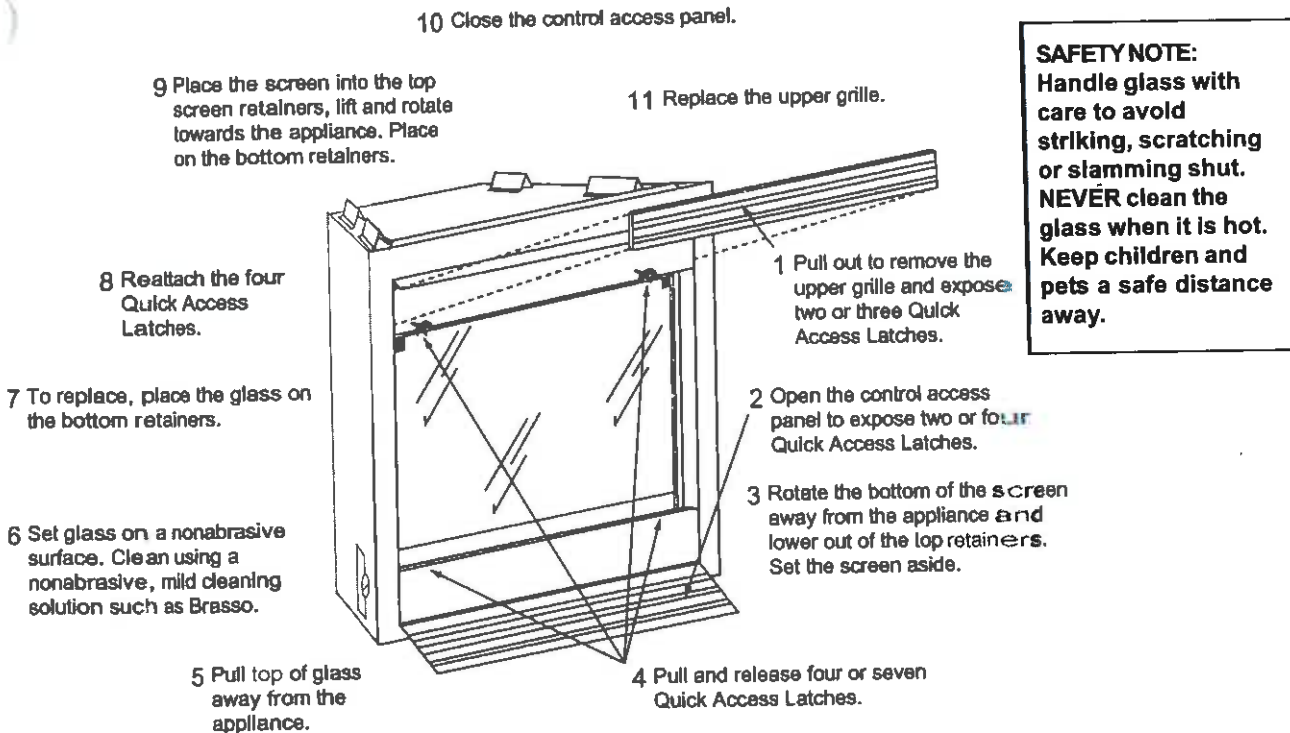

Figure 61 - Glass Cleaning
5. CLEANING THE GLASS (See Figure 61)